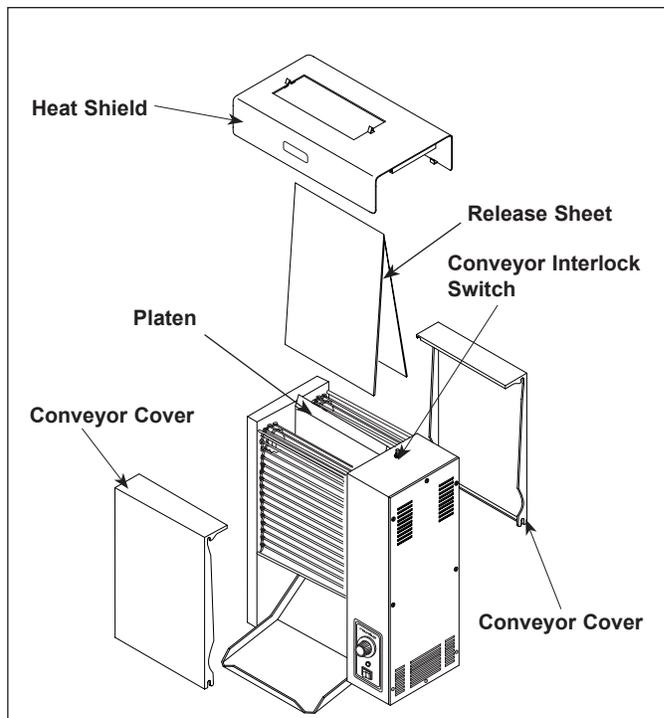

Figure 4. Installing Release Sheet
- Plastic bag containing the release sheet (Figure 4)
6. Install the release sheet by draping it over both sides of the platen surface. The crease should be centered directly on top of the platen (Figure 4).
7. Re-install the front and rear conveyor covers (Figure 4).
8. Install the heat shield Assy. The heat shield clips fit over the top of the platen and retains the release sheet (Figure 4).
**IMPORTANT:** Make sure heat shield assy. is activating (depressing) the conveyor interlock switch (see Figure 4). The conveyors will not rotate unless the heat shield is in place and interlock switch is activated (depressed).
A conveyor interlock switch is located on top of the unit under the heat shield (Figure 4). The conveyors will not rotate unless the heat shield is in place and interlock switch is activated (depressed).
4. Remove front and rear conveyor cover assys. (Figure 4). Wipe exterior of conveyor belt with a clean, sanitized towel.
5. Install front and rear cover assys. (Figure 4) then turn toaster on. Count to 10, then turn toaster off. Remove front and rear cover assys. and wipe new section of belt. Re-install the front and rear cover assemblies.
2. Remove the heat shield, front and rear conveyor covers and release sheet (Figure 4).